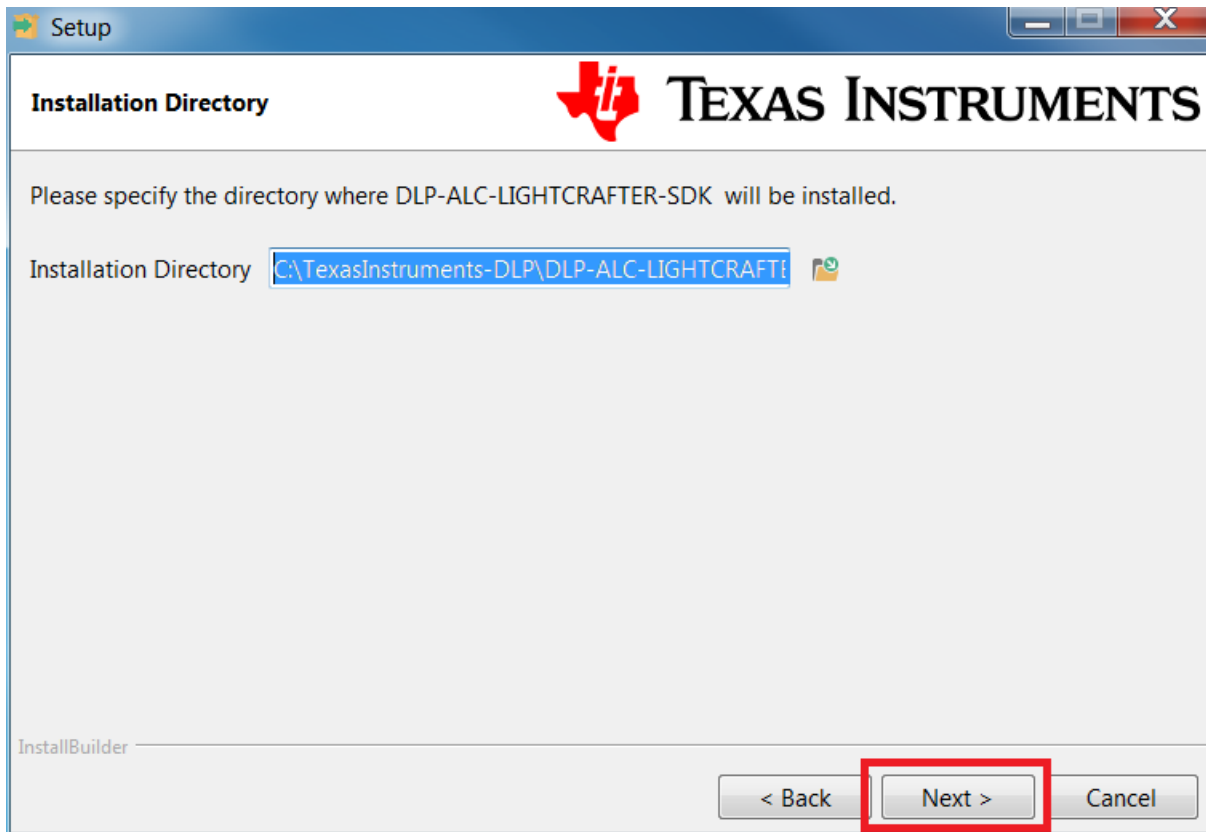

Figure 41. DLP ALC SDK Install Directory
5. Select the directory where the files should be stored. The default directory is shown in Figure 41.